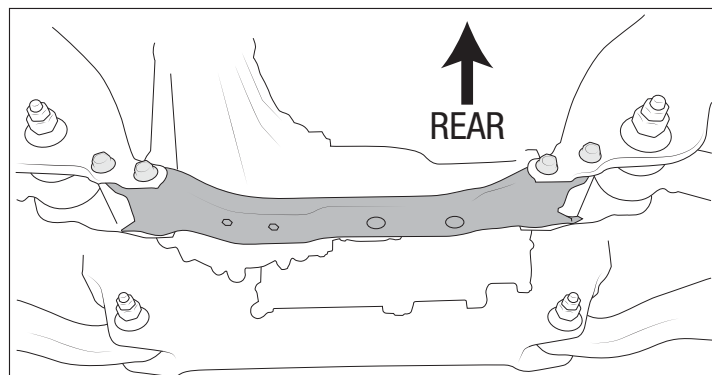

Figure 1
18. Remove rearward front suspension cross-member and hardware and discard (fig. 1).